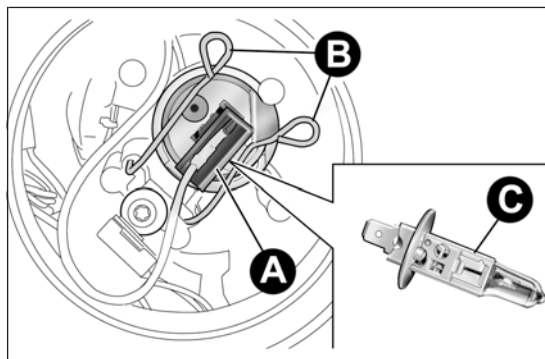

fig. 141
- remove cover A fig. 141;
- remove the connector A fig. 141 and then open the tabs B outwards;